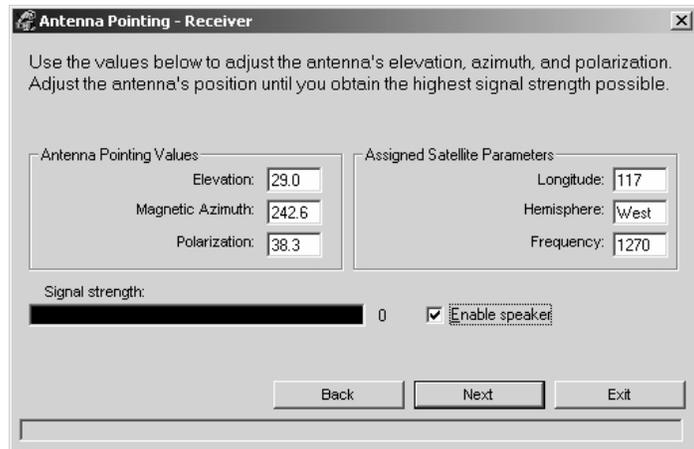

Figure 54: Antenna Pointing - Receiver
12. Click **Next** on the Antenna Pointing - Receiver screen shown in Figure 54. Configuration parameters from the WebACS in the NOC are then downloaded to the terminal.